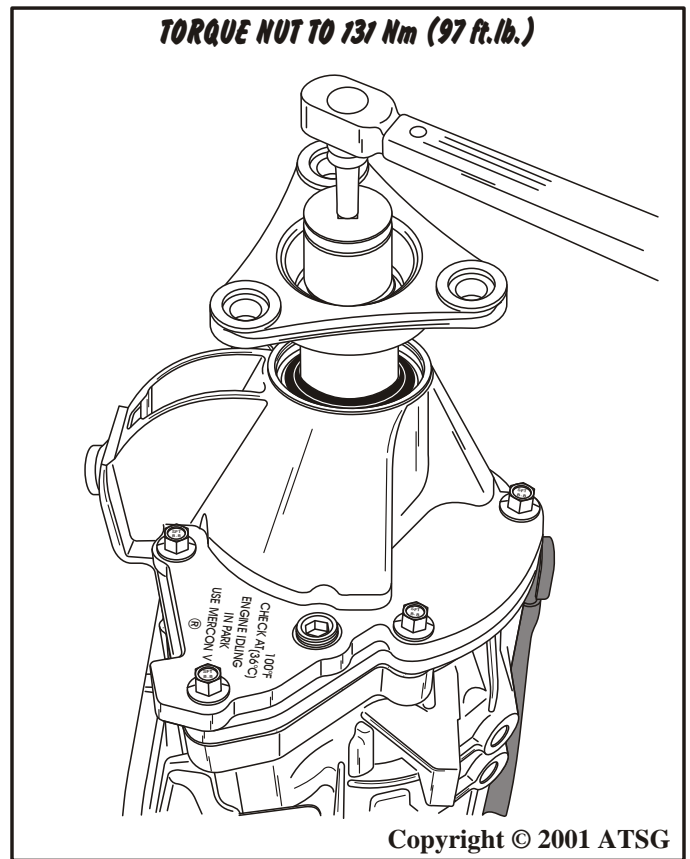

Figure 182
87. Install a *new* output flange retaining nut and torque to 131 Nm (97 ft.lb.), as shown in Figure 182.